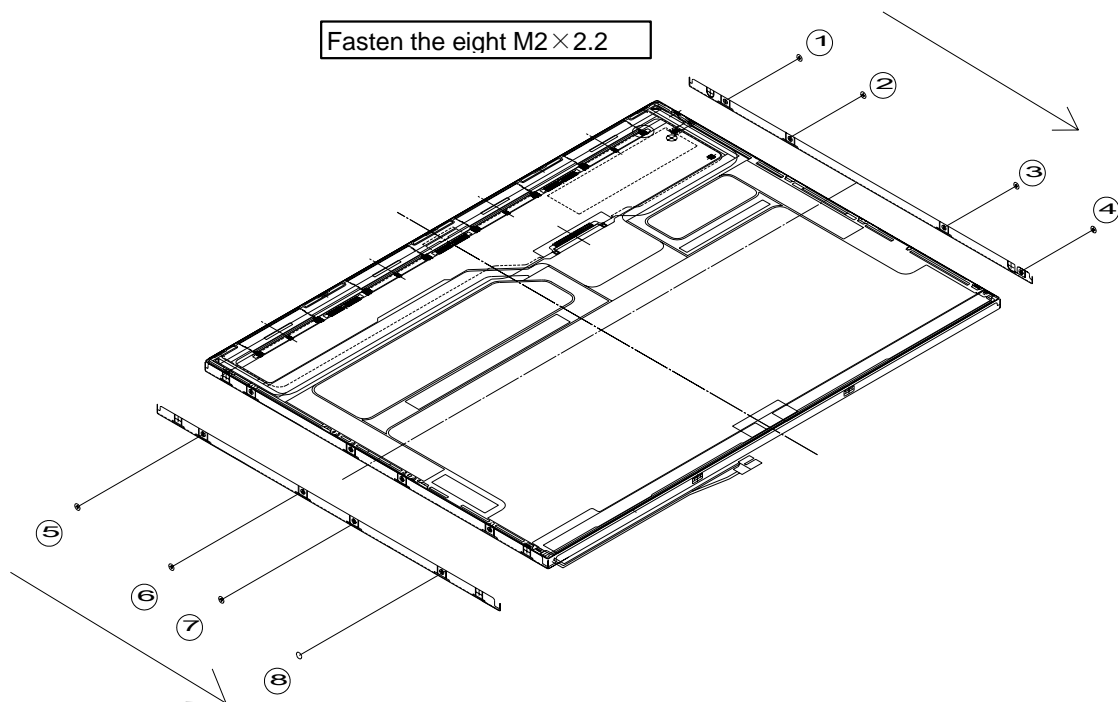

Figure 4-55 Replacing 14 Inch TMD fluorescent lamp (11)
1. Fasten four screws on the left edge in the order (5), (6), (7), and (8) shown in Figure 4-55.
2. Fasten four screws on the right edge in the order (1), (2), (3), and (4) shown in Figure 4-55.
CAUTION: Fasten the screws in the orders shown in Figure 4-55. No loose fastening is allowed.